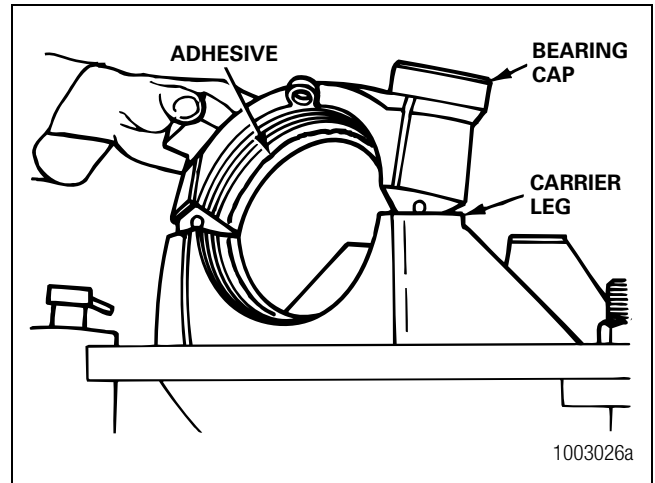

Figure 4.14
3. Apply a single continuous bead of the adhesive to the bearing bores in the carrier and bearing caps. Apply the adhesive around the circumference of the smooth, ground surfaces only. Do not place the adhesive on the threaded areas. Figure 4.14.